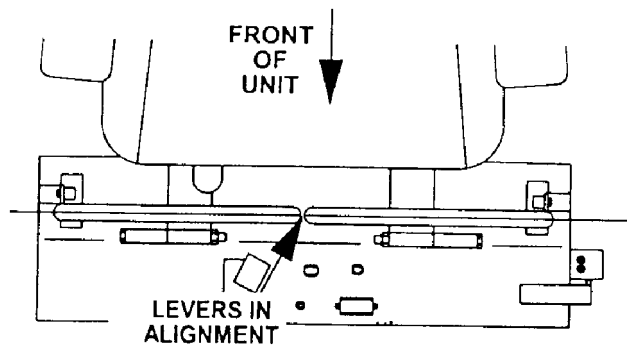

Figure 3
- If the ends of the levers hit against each other, while in the drive position (Fig 3) (levers rotated in as far as possible) make adjustments by moving the levers outward to the neutral lock position and carefully bend them outward. Move them back to the drive position and check for clearance. Repeat if necessary.